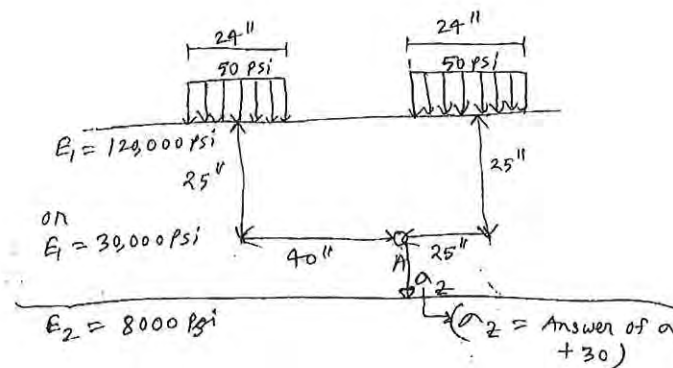

Figure 1
5. Figure 1 shows a pavement structure consisting of two layers. Two circular loads of 24-inch diameter are applied on the top layer. The pressure on the circular area is 50 psi. The elastic modulus of the different layers is shown in the figure. Determine the vertical stress, at point A which is located 25 inches below the center of both circles. Also, find out (a) the thickness of the full-depth pavement when the elastic modulus of the layer is 1,20,000 psi. If a surface treatment is applied on a granular base with an elastic modulus of 30,000 psi, (b) what is the thickness of the base course required? (15)